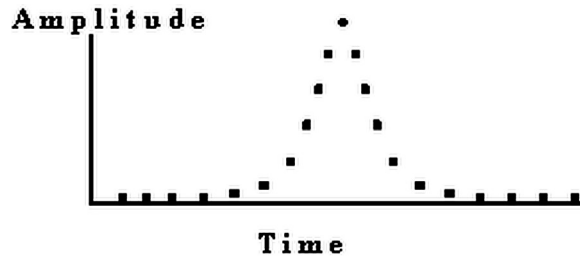

Figure 2.3 An "ideal" Readback Pulse for disc drives
Hint: The desired output signal, $y_{out}(t)$ (see **Figure 2.3**), is defined in the time domain as a symmetric and slimmed pulse with minimum undershoots.
2. If the desired output signal, $y_{out}(t)$ (see **Figure 2.3**), in the time domain is to be a symmetric and a slimmed pulse, what might the $h(t)$ function shape be or equivalent to?